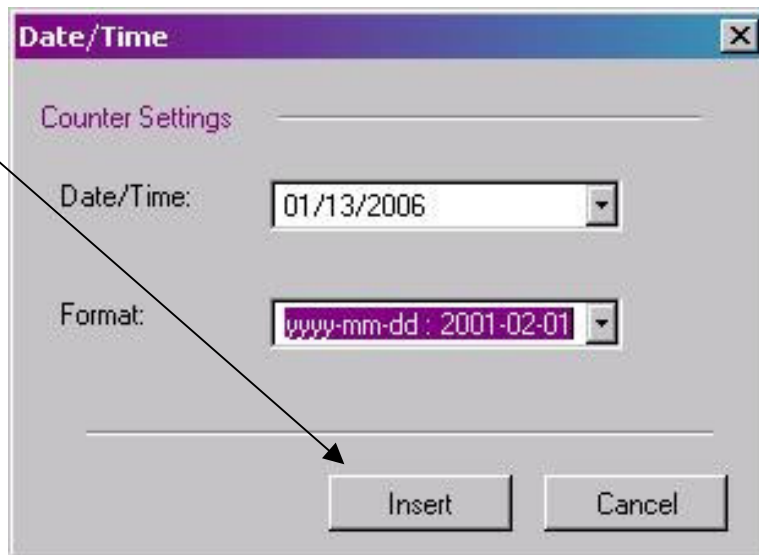

Figure 3.9.5 Inserting the Date
4. Click the insert  button to have the date that you selected be inserted onto the label (see Figure 3.9.5).